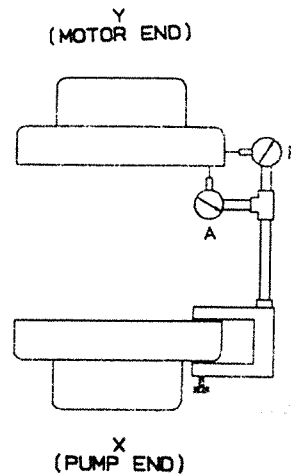

Figure 3. Dial indicator set up.
1. Mount two dial indicators on one of the coupling halves (X) so that they contact the other coupling half (Y), see Fig. 3.
A unit is in angular alignment when indicator A (Angular Indicator), Fig 3 page 3, does not vary by more than .003" (.076mm) as measured at four points on the coupling periphery 90° apart at operating temperature. There are two methods outlined below which are acceptable to achieve the desired alignment.